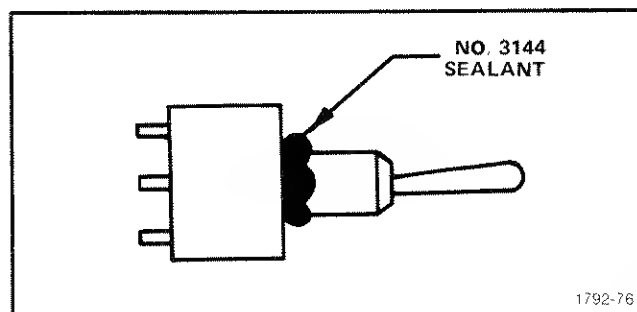

Fig. 5-23. Application of sealant to RECORD toggle-switch bushing.
21. Install the Record control (see Figs. 5-23, 5-24, 5-25)
1. Form a bead of No. 3144 sealant around the bushing/switch body interface as shown in Fig. 5-23.